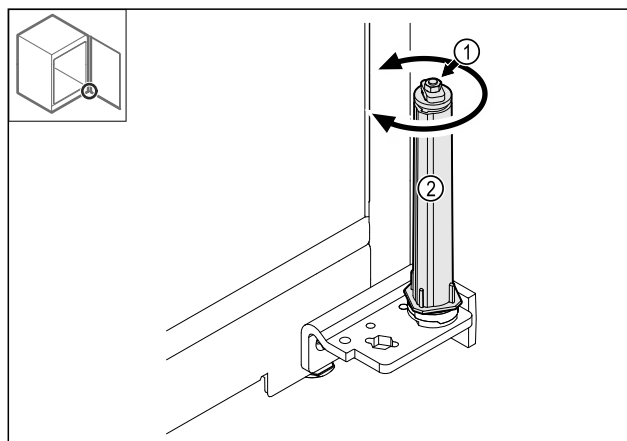

Fig. 40
- ▶ Do not dismantle the screw connection Fig. 40 (1) on the locking system.
- ▶ Turn the locking system Fig. 40 (2) until it clicks.